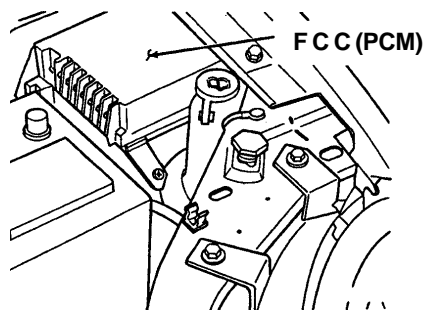

Fig. 1
1. Locate the FCC (Or PCM - Power Control Module) on the inner fender panel next to the washer fluid bottle on the driver's side (refer to Fig. 1)